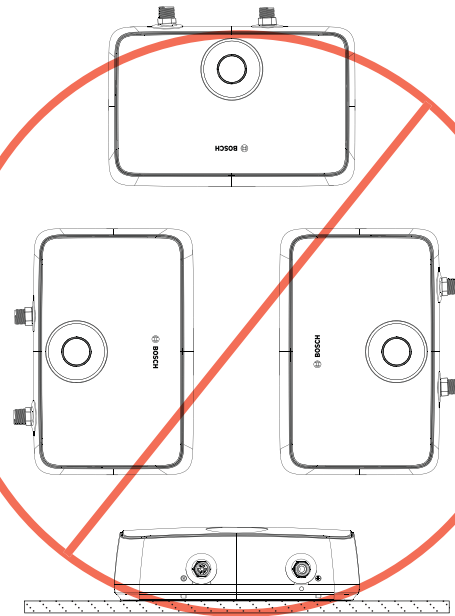

Figure 8
1. Install unions on the hot and cold water connections to easily disconnect the water heater for servicing. See Figure 8.
- ▶ It is highly recommended by the manufacturer to install water leak detection devices and automatic shutoff valves in any water heater installation where a leakage of water could result in property damages See Figure 8.